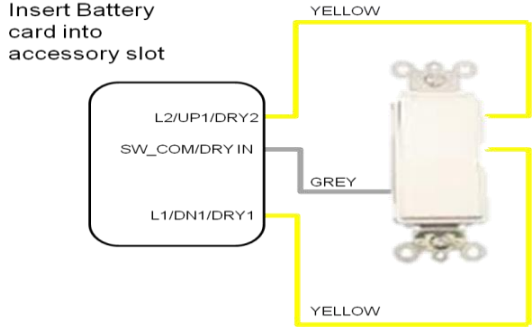
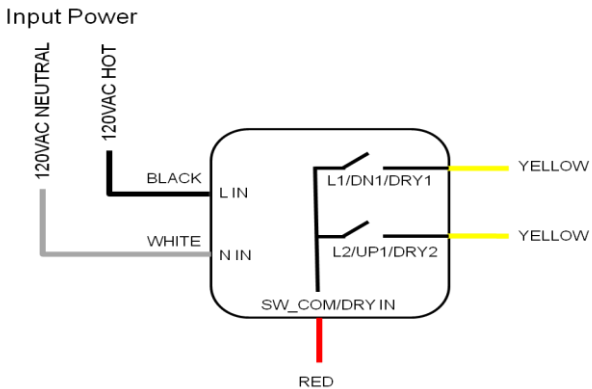

Figure 4: EDGE | home™ BATTERY SWITCH
Figure 6: EDGE | home™ DRY CONTACTS
Refer to the wiring diagrams in Figures 1-5 for the connections to the appropriate device. Note that the Switch in Figure 4 is battery powered and does not have connections to line power. The Dry Contacts in Figure 6 connect a common (SW\_COM/DRY IN) to two (2) separate N.O. Dry Contacts.